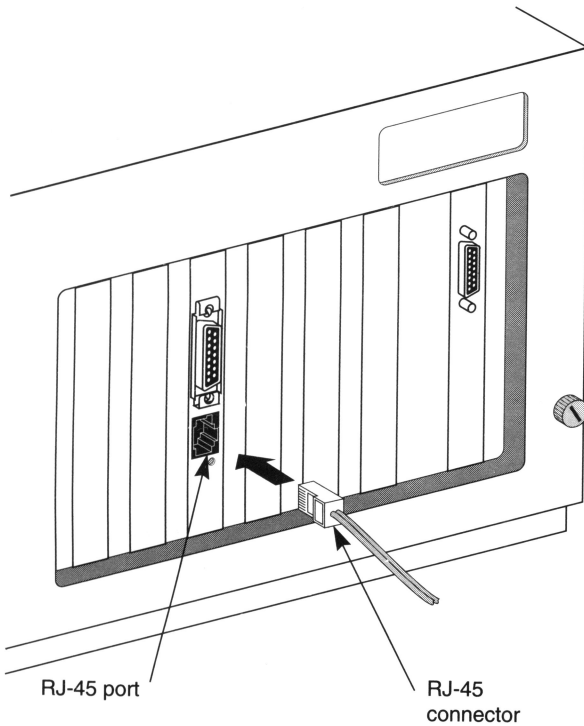

Figure 5-3. Connecting Twisted-pair Cable
3. **Insert the RJ-45 plug into the adapter socket, as shown in Figure 5-3.**